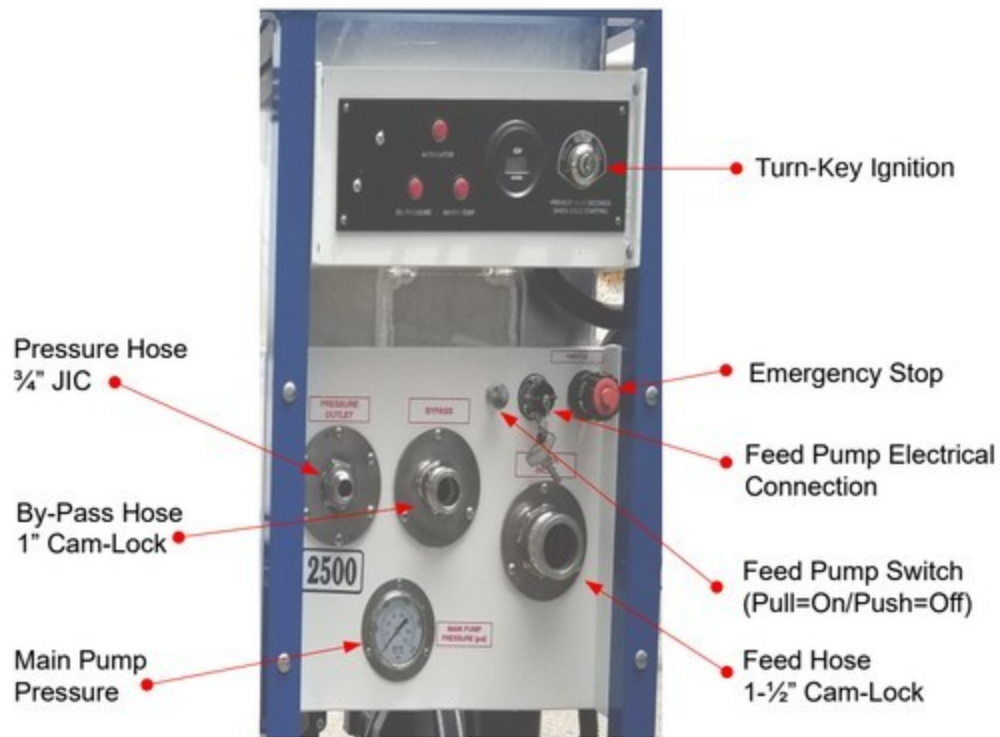

Figure 4.5 – Emergency Stop Button
- Push IN the Emergency Stop button to ensure power has been disconnected. (Fig. 4.5).
- 4) Check the fuel tank (See Fig. 4.5).